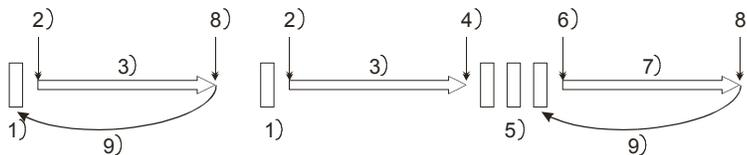

Figure 7-1
- ❸ Playing.
- ❹ The PLAY/PAUSE button is pressed and the unit enters pause mode.
- ❺ Pausing.
- ❻ Playback resumes when the PLAY/PAUSE button is pressed again.
- ❼ Playing.
- Figure 7-1 shows the relationship between the play and back cue operations.